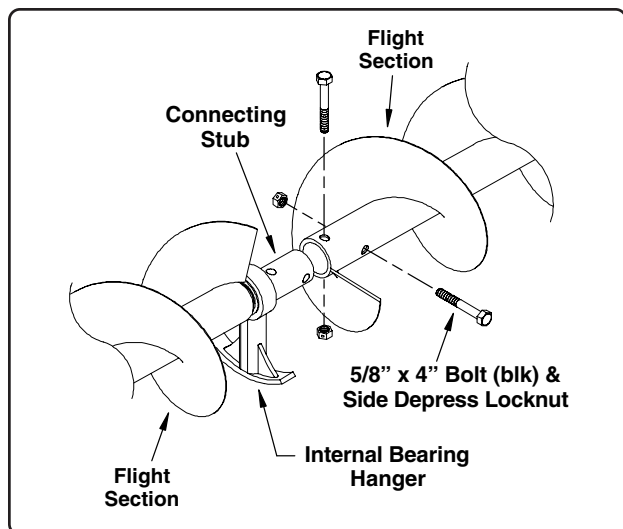

Fig. 42
- Slide an internal bearing hanger onto the end of the flight connecting stub. Apply anti-sieze compound to the connecting stub and attach the flight to the next flight section. Secure using two 5/8" x 4" bolts (blk) and side depress locknuts (See Fig. 42).